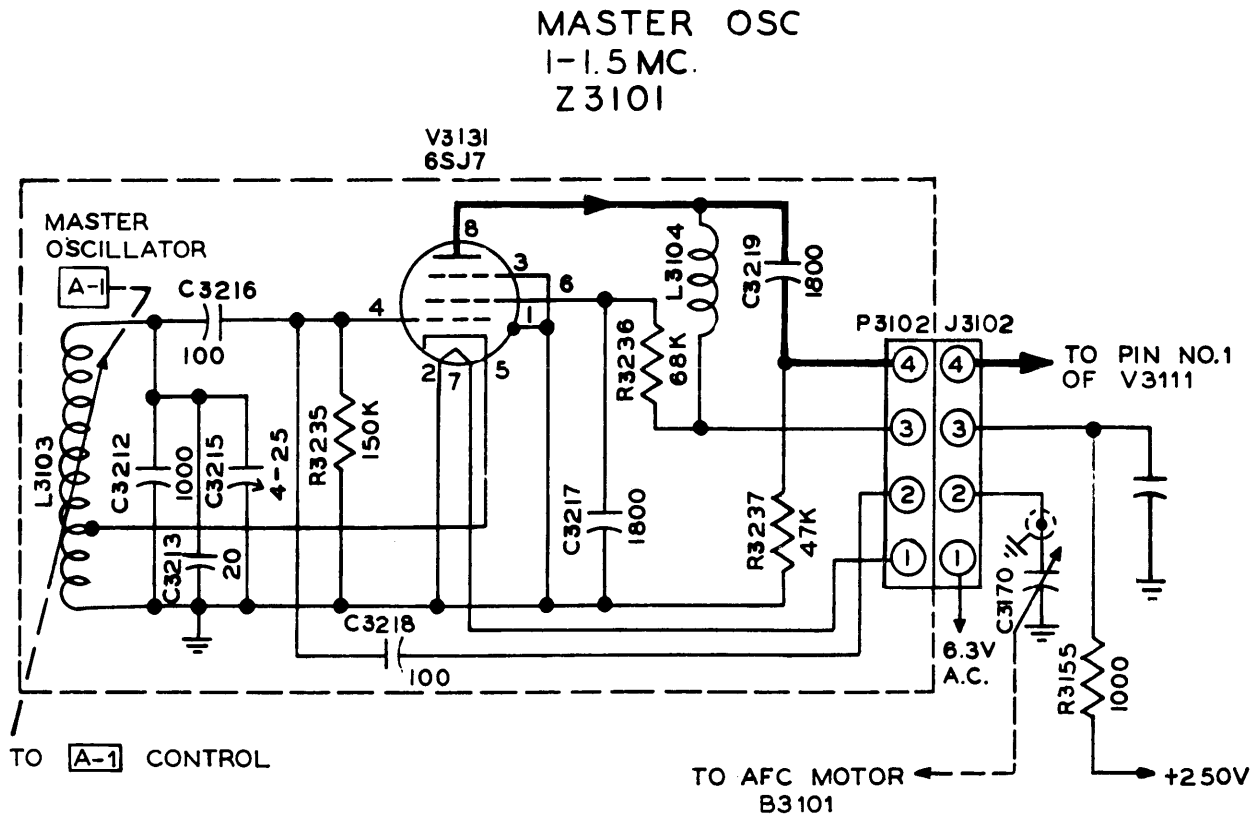

Figure 2-36. Master Oscillator, Simplified Schematic
(1) MASTER OSCILLATOR (see figure 2-36).—The oscillator assembly is a precision device which supplies an output signal of very stable frequency under conditions of extreme temperature and humidity changes. The circuit used is an electron-coupled type employing a 6SJ7 tube (V3131), and covering a frequency range of 1000 to 1500 kc. The output frequency of the oscillator is determined by the position of the tuning slug within grid inductor L3103, and the capacitance